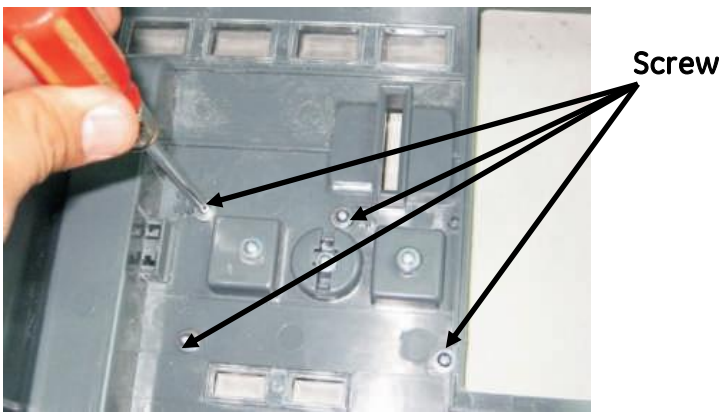

Figure 4: Assembly of Padlock Device
4. Fix the padlocking device kit with fascia using M3X6 screws at 4 locations and hand tighten. Refer Fig. 4